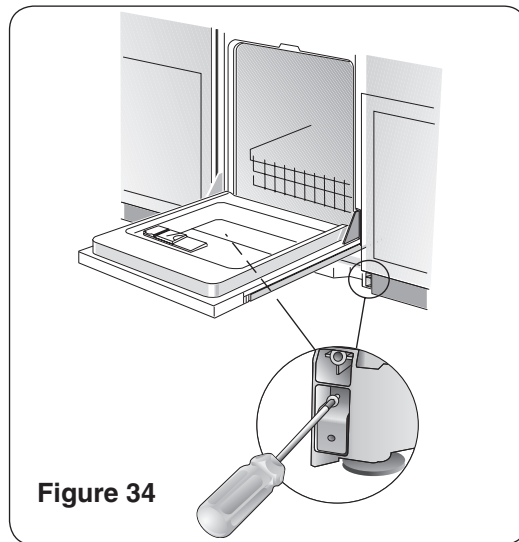

Figure 34
Step 1 - Insert the short leg of the Toe Panel Mounting Bracket into the recess of the dishwasher base as shown in **Figure 34**.